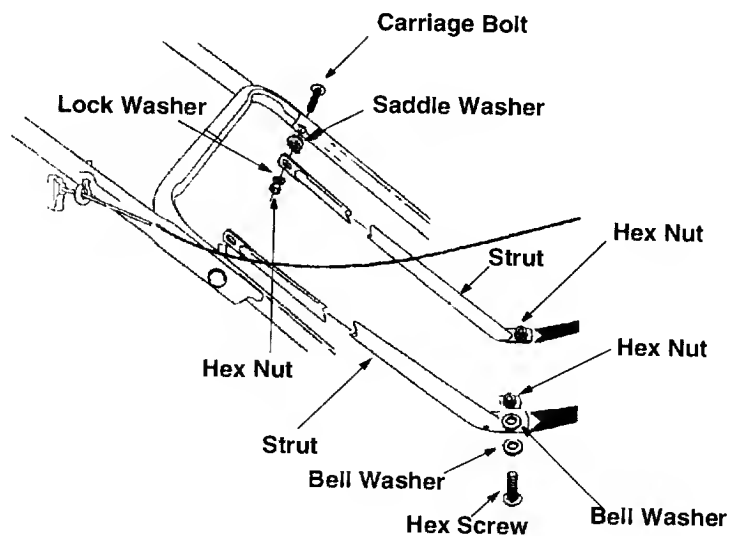

FIGURE 7
- Repeat on other side. See Figure 7.